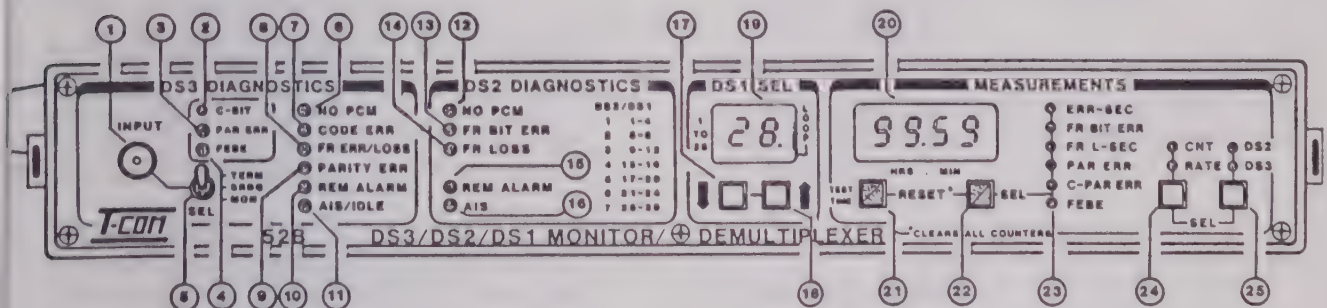

Figure 3.1 Front Panel Features
- 3.2 The 52B front panel features are described below. The description numbers match the numbers in figure 3.1.
TEST TIME — The test time in hours and minutes can be displayed at any time by simply depressing key 21 in figure 3.1. This timer is initialized to 0 upon reset.